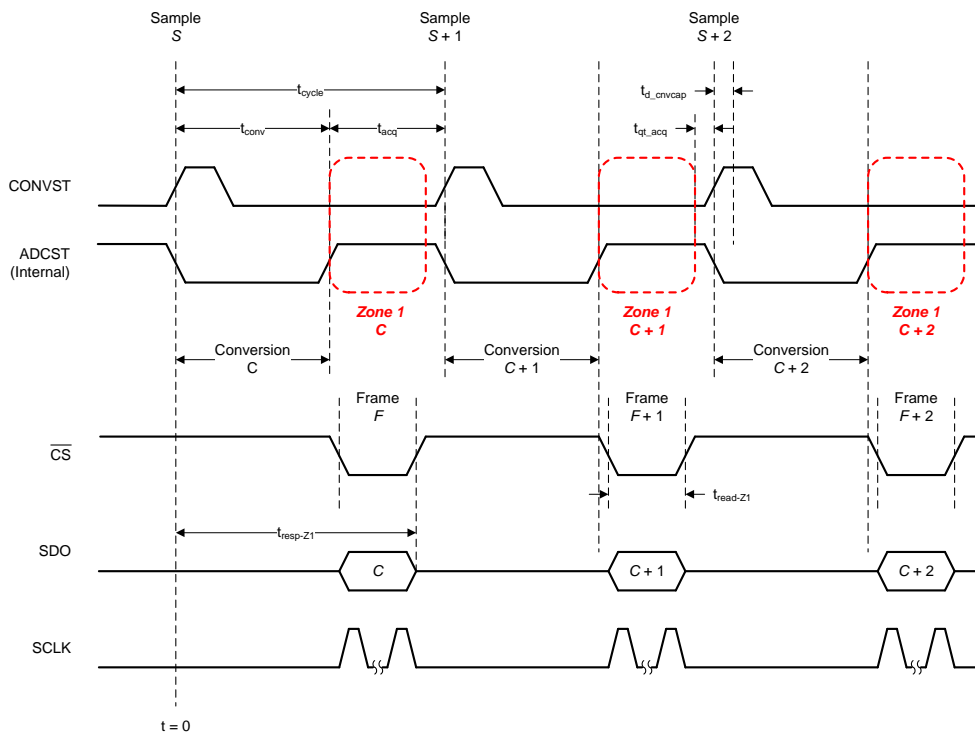
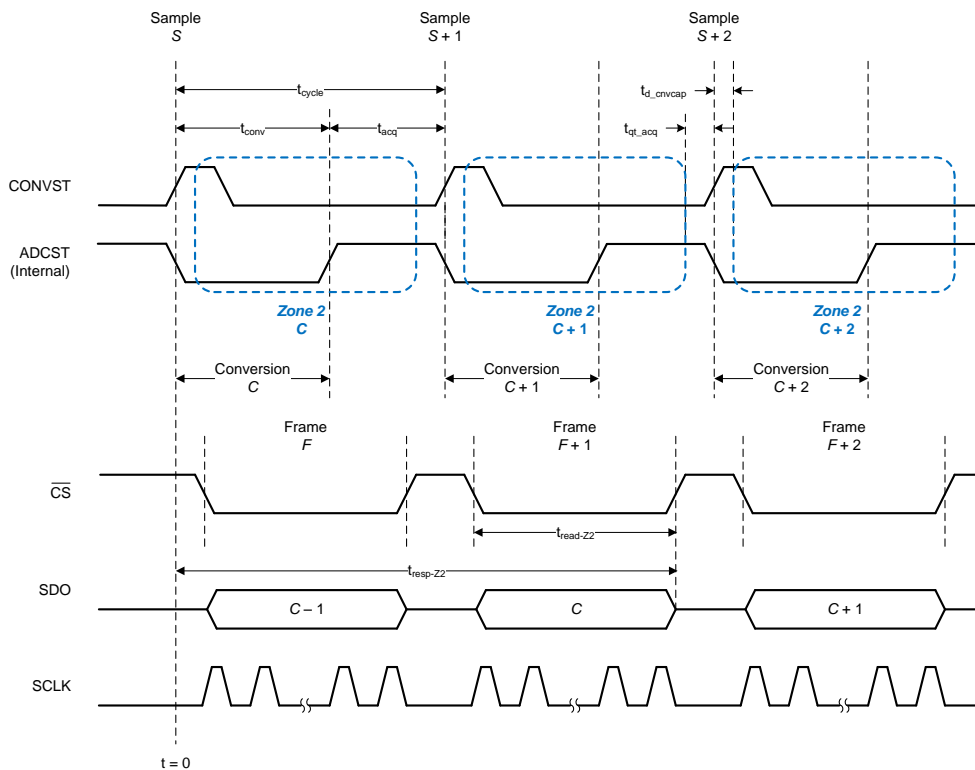

Figure 47. Zone 1 Data Transfer
Figure 48. Zone 2 Data Transfer
Figure 47 and Figure 48 illustrate interleaving of three conversion cycles (C, C + 1, and C + 2) with three data transfer frames (F, F + 1, and F + 2) in zone 1 and in zone 2, respectively.
- Extended data transfer window, as shown in Figure 48.